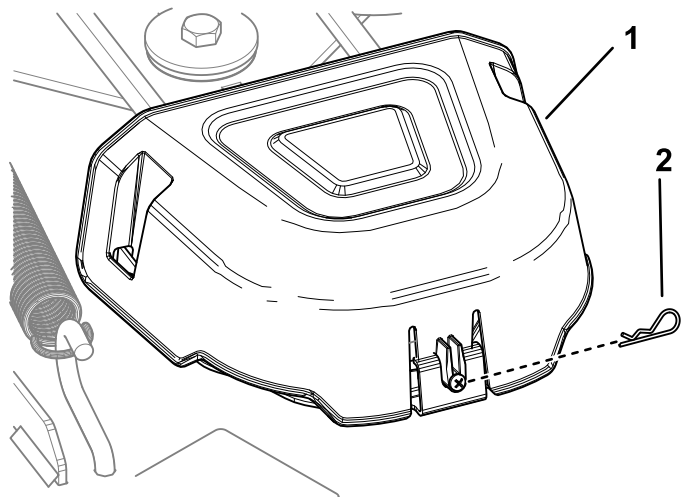

Figure 53
4. Remove the hairpin cotter and push in the tab on the cover to remove the pulley covers (Figure 53).